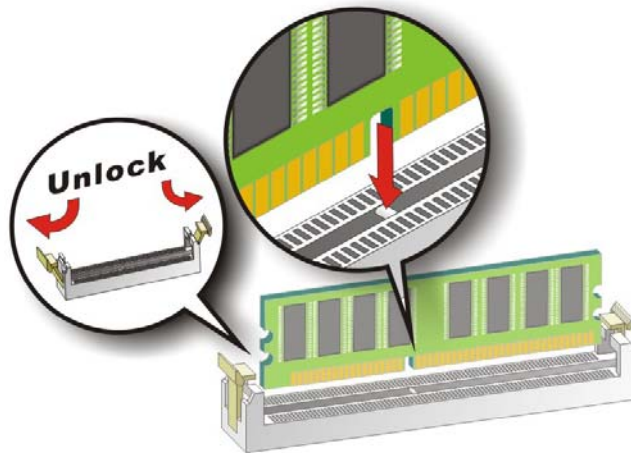

Figure 4-8: Installing a DIMM
To install a DIMM into a DIMM socket, please follow the steps below and refer to **Figure 4-8**.
Step 1: Open the DIMM socket handles. The DIMM socket has two handles that secure the DIMM into the socket. Before the DIMM can be inserted into the socket, the handles must be opened. See **Figure 4-8**.
Step 2: Align the DIMM with the socket. The DIMM must be oriented in such a way that the notch in the middle of the DIMM must be aligned with the plastic bridge in the socket. See **Figure 4-8**.
Step 3: Insert the DIMM. Once properly aligned, the DIMM can be inserted into the socket. As the DIMM is inserted, the white handles on the side of the socket will close automatically and secure the DIMM to the socket. See **Figure 4-8**.